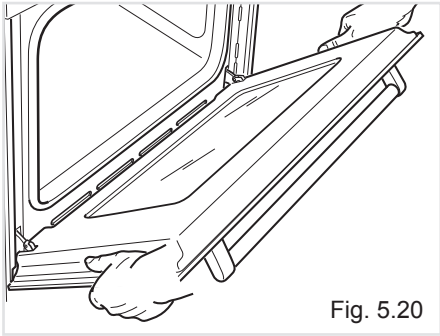
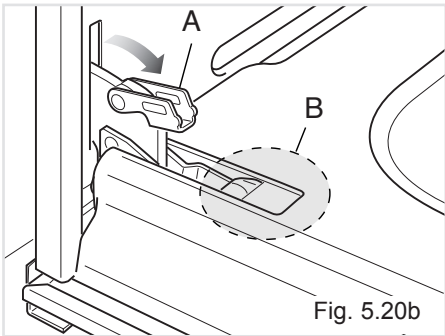

Fig. 5.20
Fig. 5.20b
- Open the lever "A" completely on the left and right hinges (fig. 5.20b).
- Hold the door as shown in fig. 5.20.
- Gently close the door (fig. 5.20) until left and right hinge levers "A" are hooked to part "B" of the door (fig. 5.20b)
- Hold the door firmly (fig. 5.20).